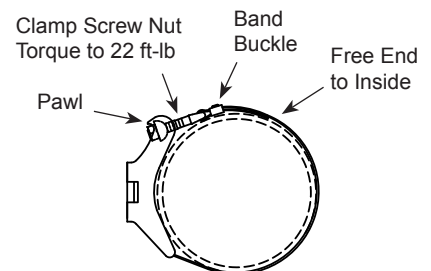

Figure 3
11. Plumb and level the bracket and torque the 7/16" clamp screw nut to 22 ft-lb. DO NOT OVERTIGHTEN. (Figure 3)